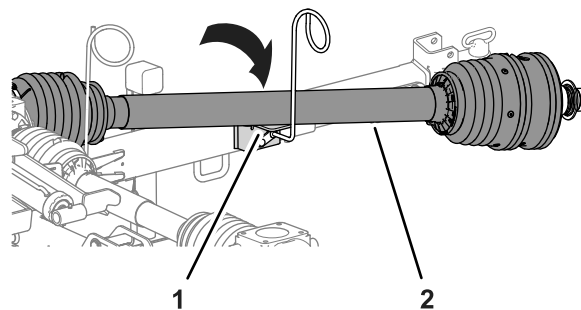

Figure 9
2. Move the PTO driveshaft onto the driveshaft rest of the hose guide (Figure 9).